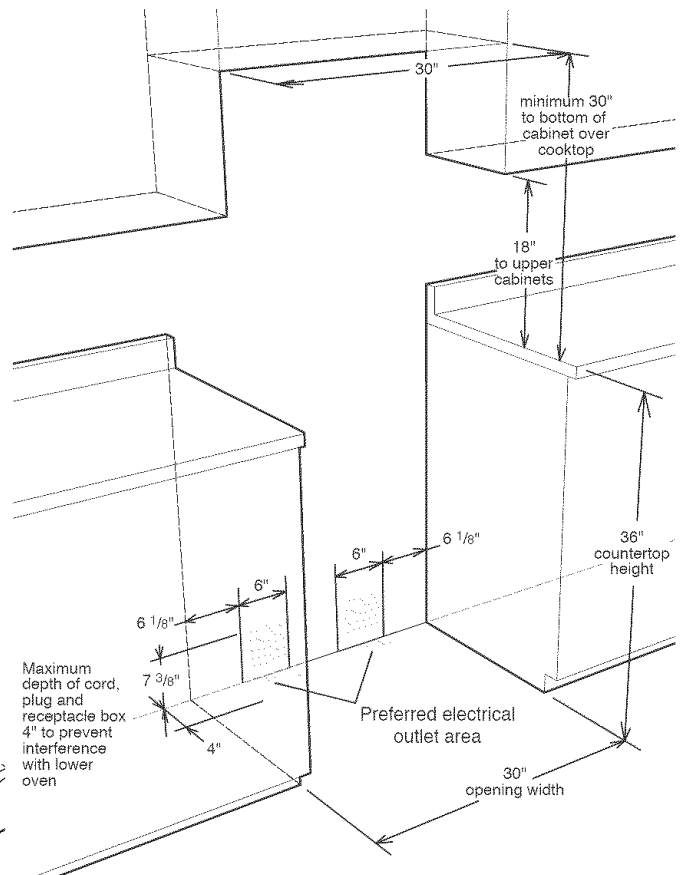

Figure 2
- Dimensions that are shown in Figure 2 must be used. Given dimensions provide minimum clearance. There needs to be a 30-inch minimum clearance between the top of the cooking surface and the bottom of unprotected wood or metal cabinets or a 24-inch minimum when bottom of wood or metal cabinets are protected by not less than a 1/4-inch flame retardant millboard covered with not less than no. 29 msg sheet-steel, 0.015-inch stainless steel, 0.024-inch aluminum or 0.020-inch copper. Note that the gray shaded area on Figure 2 indicates the location for the electrical receptacle/connection.
Before wiring the range, review the suggested power source location drawing in Figure 2. If connecting to a 4-wire electrical system for a new branch-circuit or mobile home use a 4-wire connection.
Before wiring the range, review the suggested power source location drawings in Figure 2. If connecting to a 4-wire electrical system: